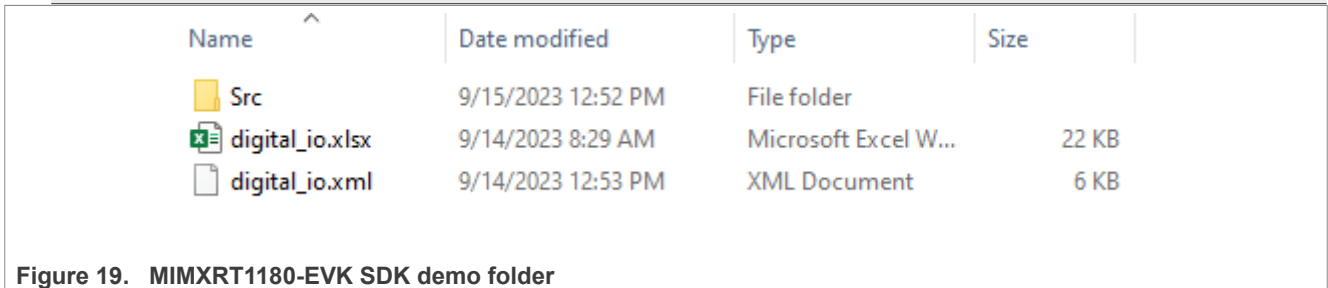

Figure 19. MIMXRT1180-EVK SDK demo folder
- Copy and replace the project file from the `src` folder created by the SSC tool to the `src` folder in the MIMXRT1180-EVK SDK, as shown in Figure 19.